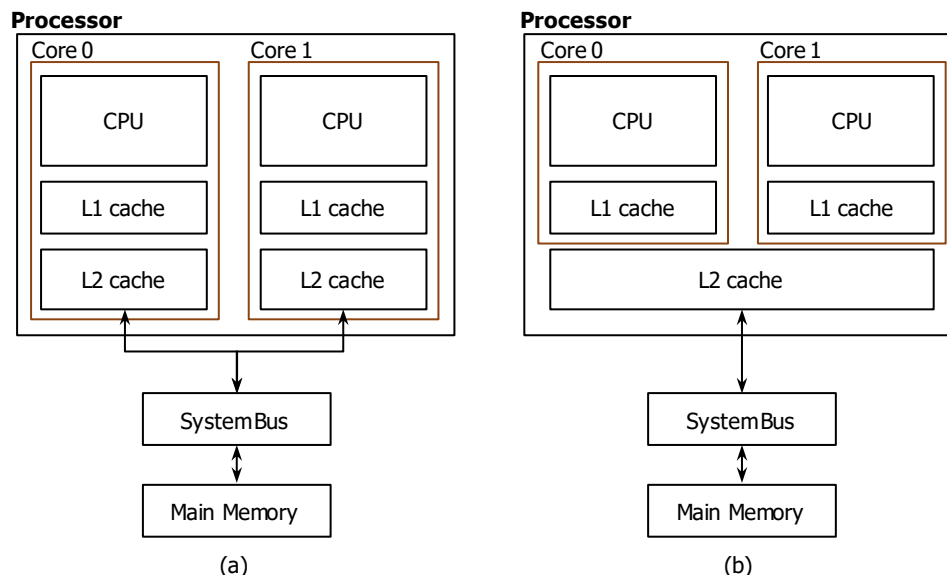

Figure 4. Multi-core processor. (a) Separate L2 cache. (b) Shared L2 cache.
- Multi-core processor: Architectures are varied. For example, Fig. 4 depicts two multi-core architectures that differ in the location of connection between the two processor cores. The architecture in Fig. 4(a) includes two cores, each with L1 and L2 caches, and sharing system bus and connection to memory. The architecture in Fig. 4(b) includes two cores, each with a L1 cache, and sharing the L2 cache, system bus, and connection to memory.